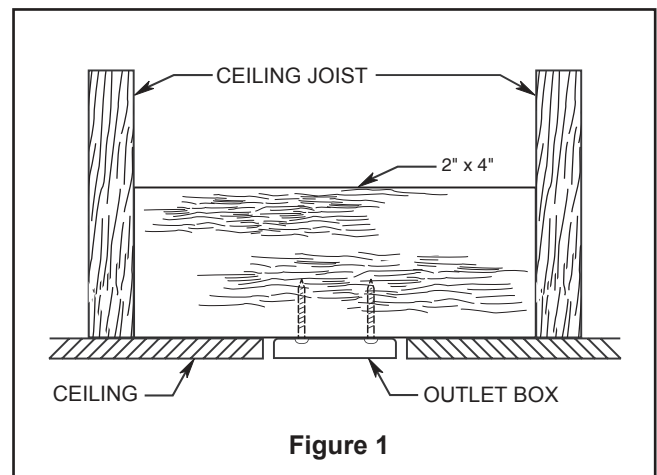
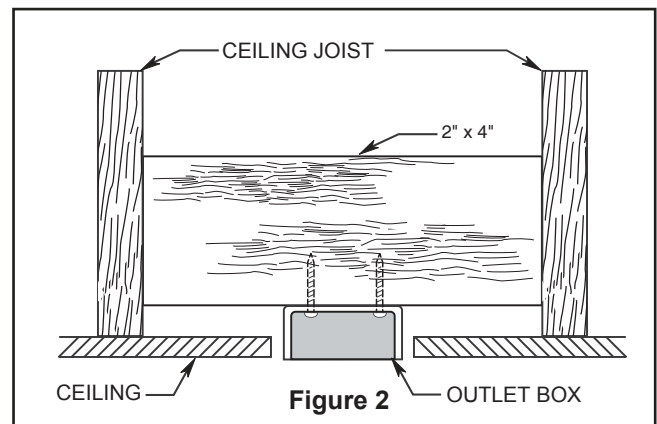
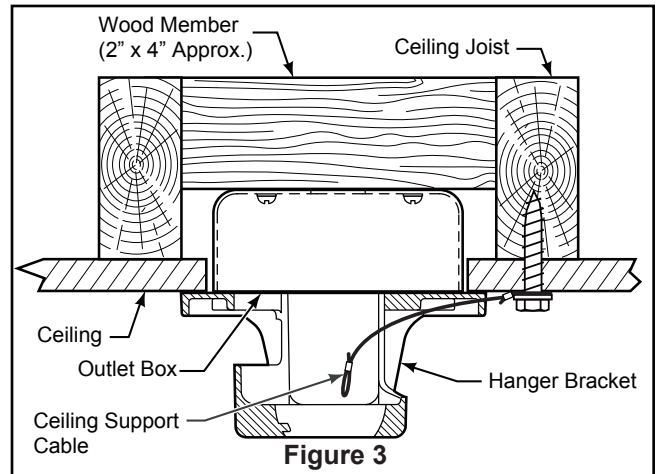

Figure 1
Figure 2
Figure 3
Your new ceiling fan will require a grounded electrical supply line of 120 volts AC, 60 HZ, 15 Amp Circuit. Electrical code requires use of a fan-rated outlet box to support the extra weight and motion associated with a ceiling fan. A fan-rated box will be labeled as such and typically supports up to a 70lb ceiling fan. Fan-Rated Outlet Boxes vary in ratings and design. Ensure the ratings of your ceiling fan outlet box meet the requirements for the ceiling fan being installed. Figure 1, Figure 2 and Figure 3 depicts different structural configurations that may be used for mounting the outlet box.
Low profile box (Figure 1)
Deep box (Figure 2)
Deep box with brace (Figure 3)
3. Remove the hairpin clip and clevis pin from the bottom of downrod. Retain the pin and clip for reinstallation in Step 5. (Figure 3)
1. Securely attach the hanger bracket to the outlet box using the outlet box screws and washers supplied with the outlet box. (Figure 3)
2. Drill a 1/4" pilot hole into the building structure to prevent splitting or cracking with installation of the lag bolt. Using the 3/8" x 2" lag bolt and flat washer, attach safety cable to ceiling joist or wood structural member. The lag bolt will pass through the flat washer, safety cable loop, and into the building structure. (Figure 3)
NOTE: Ceiling support cable cannot be secured to outlet box only, it must be directly secured to ceiling joist or structural member using the 3/8" x 2" lag bolt and flat washer. (Figure 3)
- 2. Slide the receiver into the hanger bracket before wiring as shown in figure 3.
3. Attach the plastic cap assembly to the motor assembly, which is held in place by a magnet. (Figure 3)
- 3.** Remove the battery cover from remote control by screwdriver and retain the screw for later. (Figure 3)